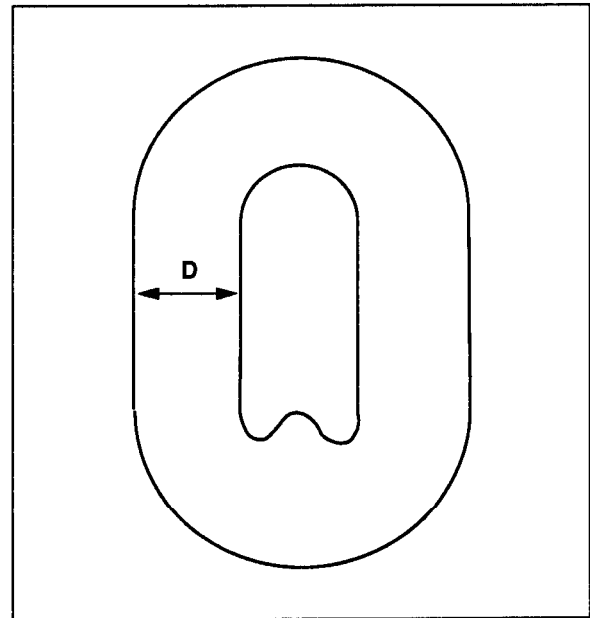

Figure 3-1. Link thickness
Chains are made up of a series of links fastened through each other. Each link is made of a rod of wire bent into an oval shape and welded at one or two points. The weld ordinarily causes a slight bulge on the side or end of the link (see *Figure 3-1*). The chain size refers to the diameter, in inches, of the rod used to make the link. Chains usually stretch under excessive loading so that the individual links bend slightly. Bent links are a warning that the chain has been overloaded and might fail suddenly under a load. Wire rope, on the other hand, fails a strand at a time, giving warning before complete failure occurs. If a chain is equipped with the proper hook, the hook should start to fail first, indicating that the chain is overloaded.
*D = Smallest link thickness or least diameter measured in inches (see Figure 3-1, page 3-1)*